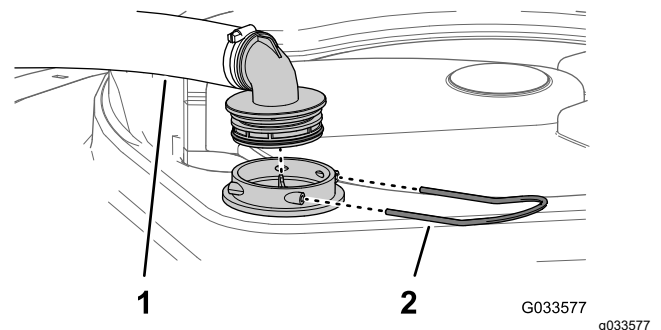

Figure 42
2. At the top of the sprayer tank, remove the retainer that secures the hose fitting attached to the large hose from the filter housing (Figure 42).
3. Remove the hose and hose fitting from the filter housing (Figure 42).